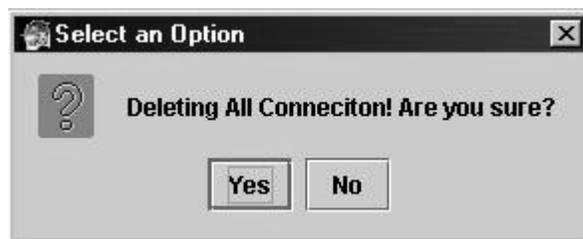

Figure 7-4: Confirm Delete All PVC Connections Dialog
2. Click **FLUSH**. The Select an Option dialog displays. See Figure 7-4.